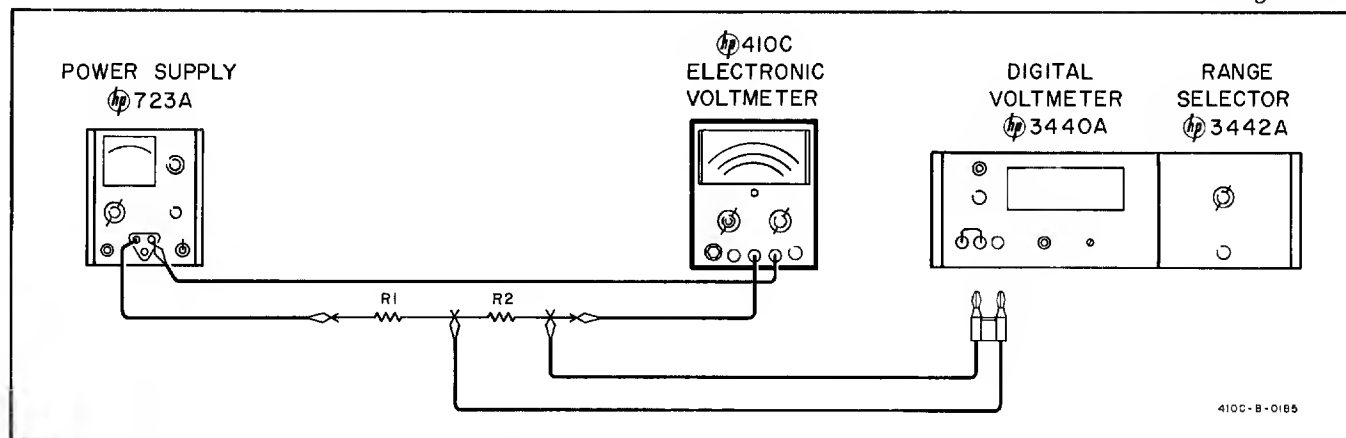

Figure 5-2. DC Ammeter Operation
a. Figure 5-2 describes the test arrangement required for this operation. The following additional equipment will also be required:
b. Connect the Model 410C as shown in Figure 5-2; FUNCTION SELECTOR to +DCA; RANGE to 150 MA.
a. Figure 5-2 describes the test arrangement required for this operation. Replace R1 and R2 with a 10 ohm $\pm 1\%$ resistor (Part No. 0727-0335).